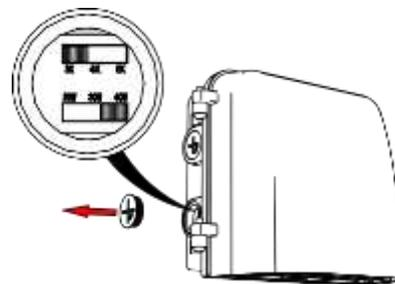

Figure 5
1. Remove the conduit to access the FAO controller [Figure 5]